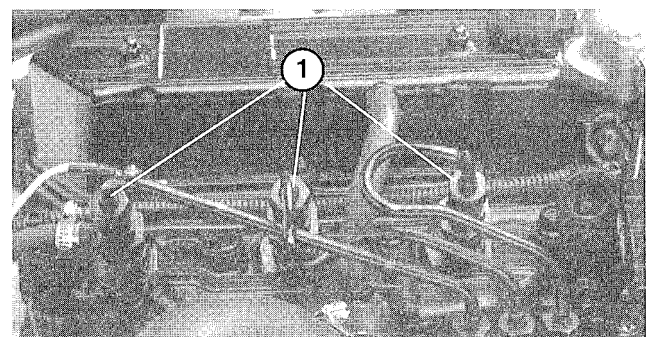

Figure 43
BLEEDING AIR FROM INJECTORS (Fig. 43)
- Loosen the pipe connection to the No. 1 nozzle and holder assembly (Fig. 43).